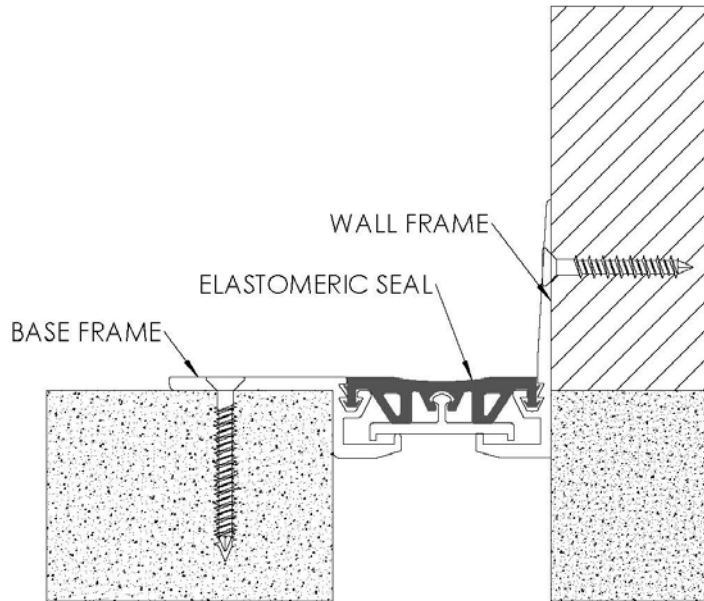

FIGURE 4
4. Position the elastomeric seal into position and push the seal bulbs into the base frame and wall frame top channels as shown. Make sure the bulbs are seated all the way into the channel. Also, make sure the bottom center channel in the seal is pushed over the protrusion on the slide plate (not required on 1” joint sizes). **See Figure 4**